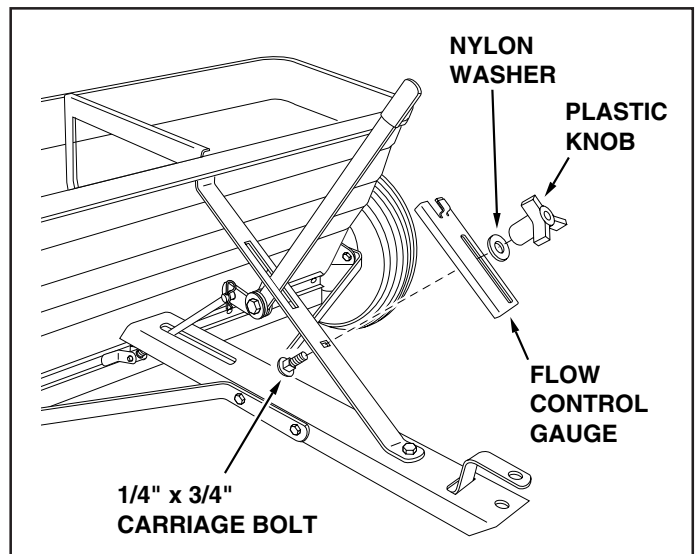

FIGURE 6
- Assemble the flow control gauge to the hopper brace using the 1/4" x 3/4" carriage bolt, a nylon washer and the plastic knob. See figure 6.